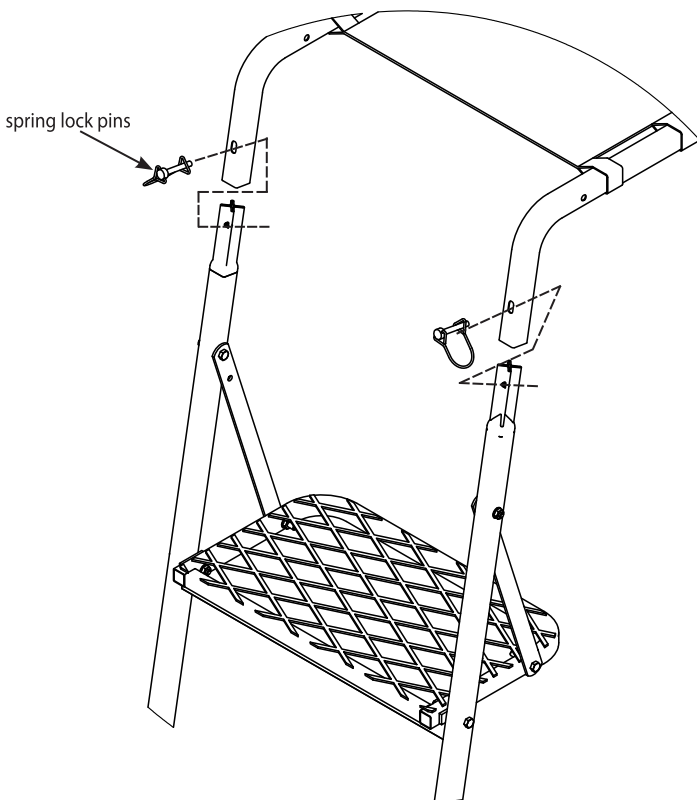

Figure 3
6. With all sections assembled together on ground, secure all sections together using (8) provided spring lock pins. Handle of spring lock pin must be put to the outside of ladder side rails. **SEE FIGURE 3.**